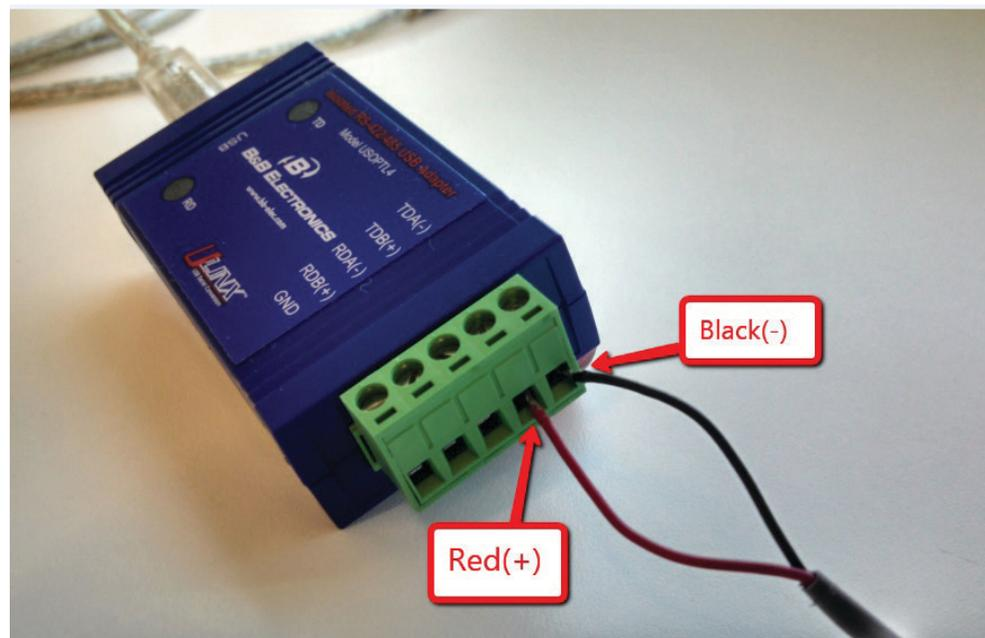

Figure 2 RS485 Adapter Box Connection
2. Connect a two lead cable to the Phoenix connector. See Figure 2.